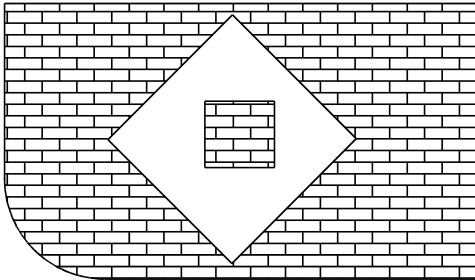

Figure 15.1: Hatching using the Normal hatching type
- Normal – toggle this on to alternate hatching within defined boundaries (see Figure 15.1).